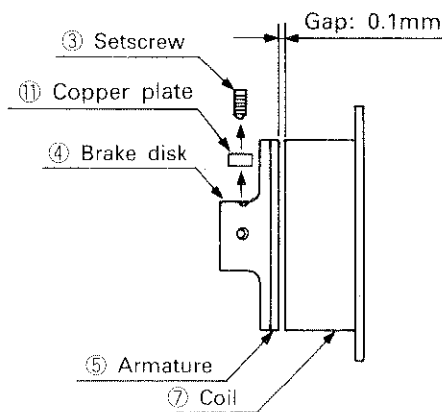

Fig. 4.3.15 Shoulder Brake Parts Identification
- (1) Fig. 4.3.15 identifies the shoulder brake parts.
- (2) Make sure that the power switch on the drive unit rear panel is in the OFF position.
- (3) Remove the upper and lower shoulder covers by referring to 3.2 Removal of the Covers.
- (4) Loosen the two setscrews ③. At this time, use care not to lose the copper plates ①. Then, using a feeler gauge, adjust the gap between the armature ⑤ and coil ⑦ to 0.1 mm.
- (5) After the gap has been properly adjusted, tighten the two setscrews ③ securely. At this time, make sure that the copper plate ① is installed between the setscrew ③ and shaft ⑧.
- (1) Fig. 4.3.15 identifies the elbow brake parts.
- (4) Loosen the two setscrews ③. At this time, use care not to lose the copper plates ①. Then, using a feeler gauge, adjust the gap between the armature ⑤ and coil ⑦ to 0.1mm.